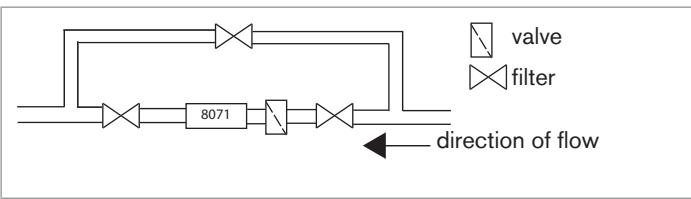

Fig.3 Installation of a by-pass line
- Install a by-pass line on your installation (see Fig.3) to service the sensor and the strainer without stopping process..